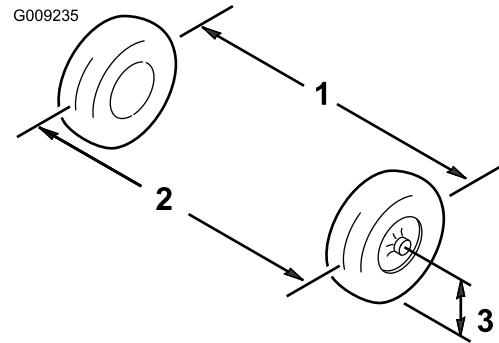

Figure 43
2. Measure the distance between both of the front tires at the axle height at both the front and rear of the front tires (Figure 43).